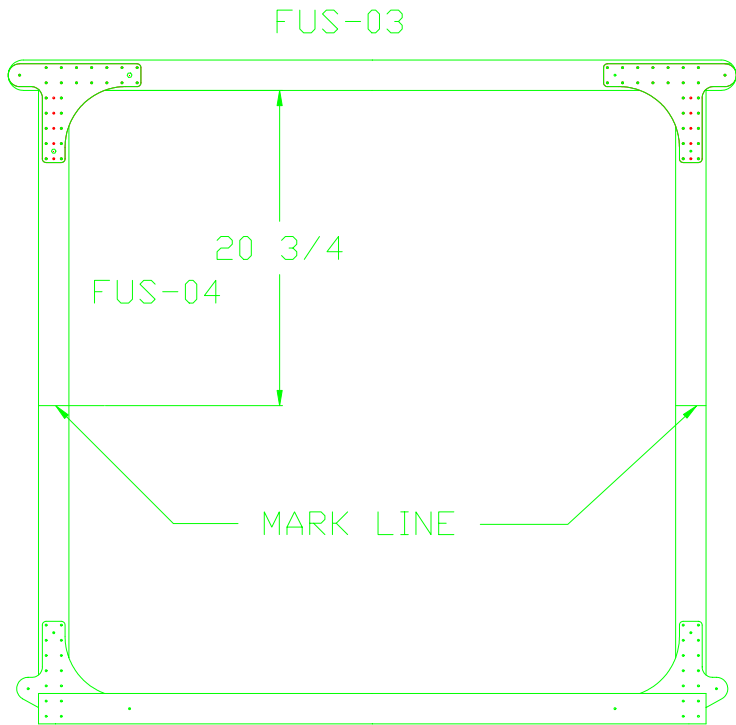

Figure 9.18.1
- 1) Mark the FUS-04 Uprights $20 \frac{3}{4}$ " down from the bottom surface of the FUS-03 Carrythrough. This is where the bottom of your instrument panel will be. Figure 9.18.1.